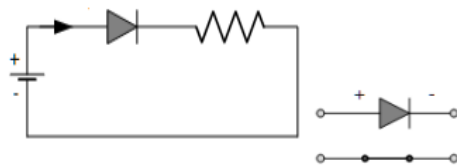

Fig. 1: Forward Bias Condition
**(A) FORWARD BIAS CONDITION:**
1. Connect the circuit as shown in Fig.1 (PN Junction diode with milli-ammeter in series with the diode).